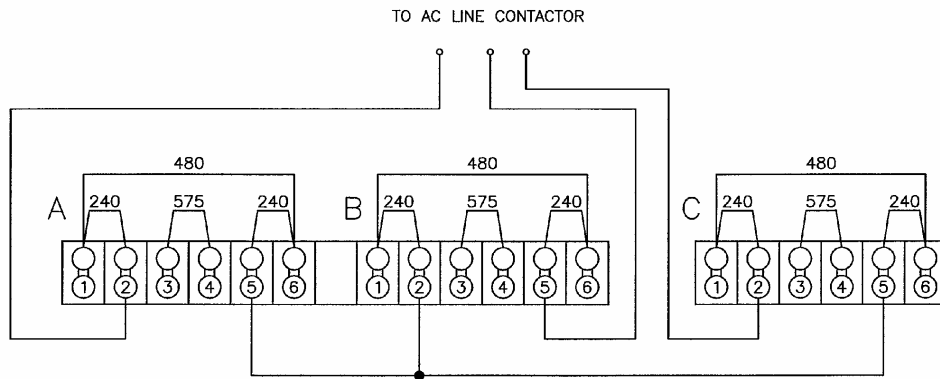

FIGURE 10.1.1 A.C. VOLTAGE SELECTOR BLOCKS (240/480/575V)
If the charger is to be operated on a different rated input voltage than the ordered value, follow the voltage changeover instructions described below (Refer to Figures 10.1.1 or 10.1.2).
- Locate the Terminal Block(s) with Jumpers (one Terminal Block per phase) and the label describing the various voltage/jumper configurations. (Refer to Figures 10.1.1 or 10.1.2). The Terminal Block(s) with Jumpers are located on the Ferro-resonant Transformer.